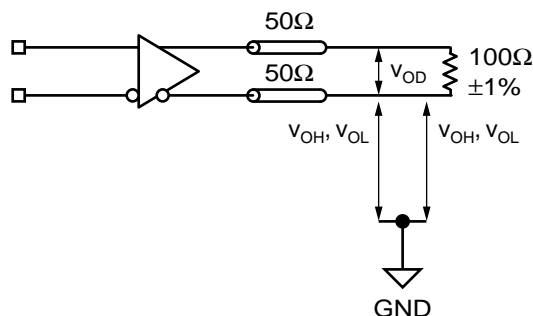

Figure 3. LVDS Differential Measurement
**Note 4.** Measured as per Figure 3.